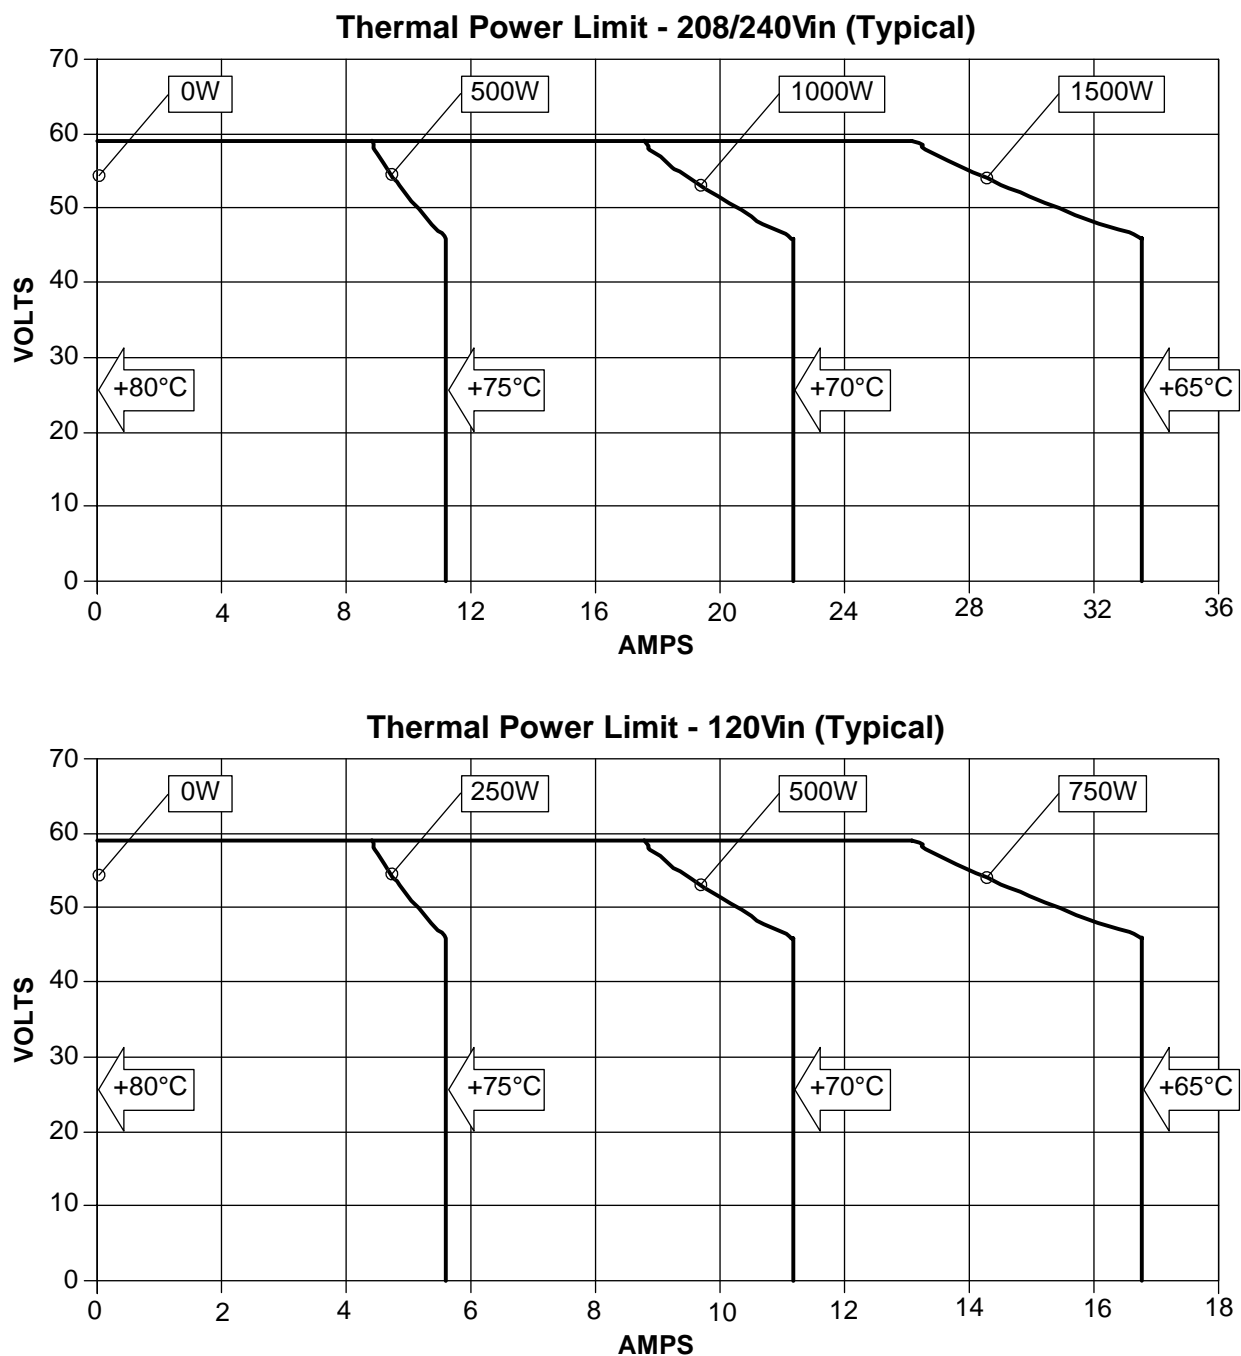

Figure 3
(E) Refer to Figure 3 for a curve that represents the typical LXP1500 output power characteristics at various ambient temperatures. Output voltage and current limit are set to maximum.